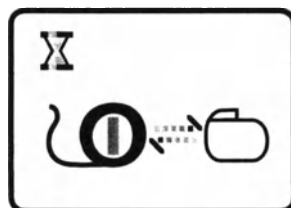

Figure 2.4 Recharger wait screen.
- a. The **Recharger wait** screen will appear on the recharger display (Figure 2.4). The **Recharger wait** screen indicates that the neurostimulator and recharger are trying to communicate.